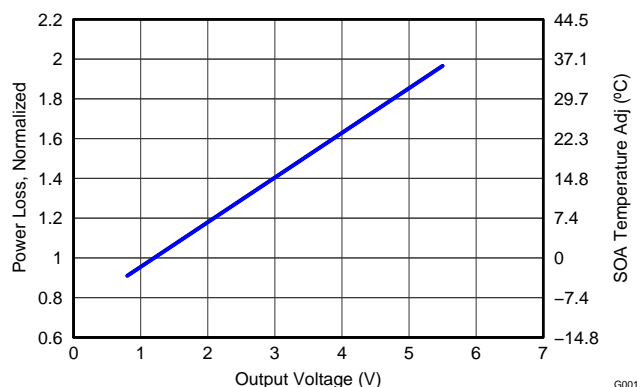

Figure 14. Normalized Power Loss vs Output Voltage
- Normalized Power Loss for output voltage ≈ 0.95 (Figure 14)
- SOA adjustment for output voltage $\approx -7.7^{\circ}C$ (Figure 14)